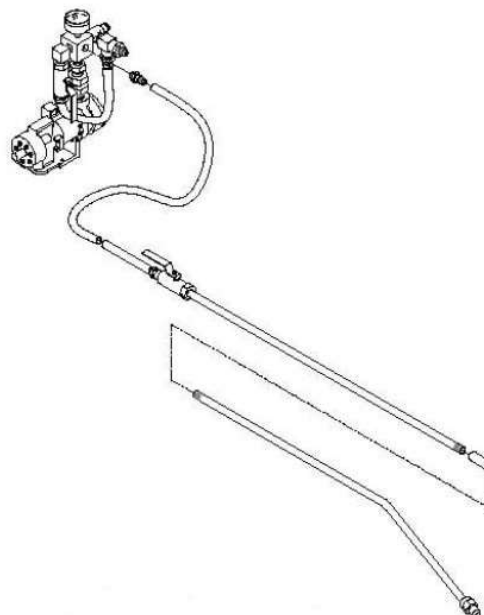

Fig. 6 - Spray Hose & Wand Connection
4. Join the two sections of the sprayer wand together using the pipe coupling provided. (See Fig. 6)
5. Attach the spray hose to the last fitting on the sprayer block assembly. (See Fig. 6) You are now ready to begin operation of the sprayer.
6. With the bypass valve in the on, downward position, start the engine and allow it to run for 2-10 minutes. This aids in the mixing of the spray compound and assures greater pump efficiency and life. (See Fig. 6)